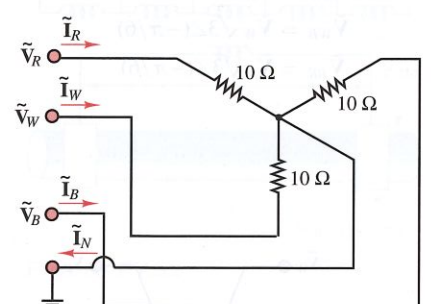

Figure P7.62
7.62 For the three-phase network shown in Figure P7.62, find the current in each wire and the real power consumed by the wye network. Let $\tilde{V}_R = 170\angle 0^\circ$ V rms, $\tilde{V}_W = 170\angle 2\pi/3$ V rms, and $\tilde{V}_B = 170\angle 4\pi/3$ V rms.